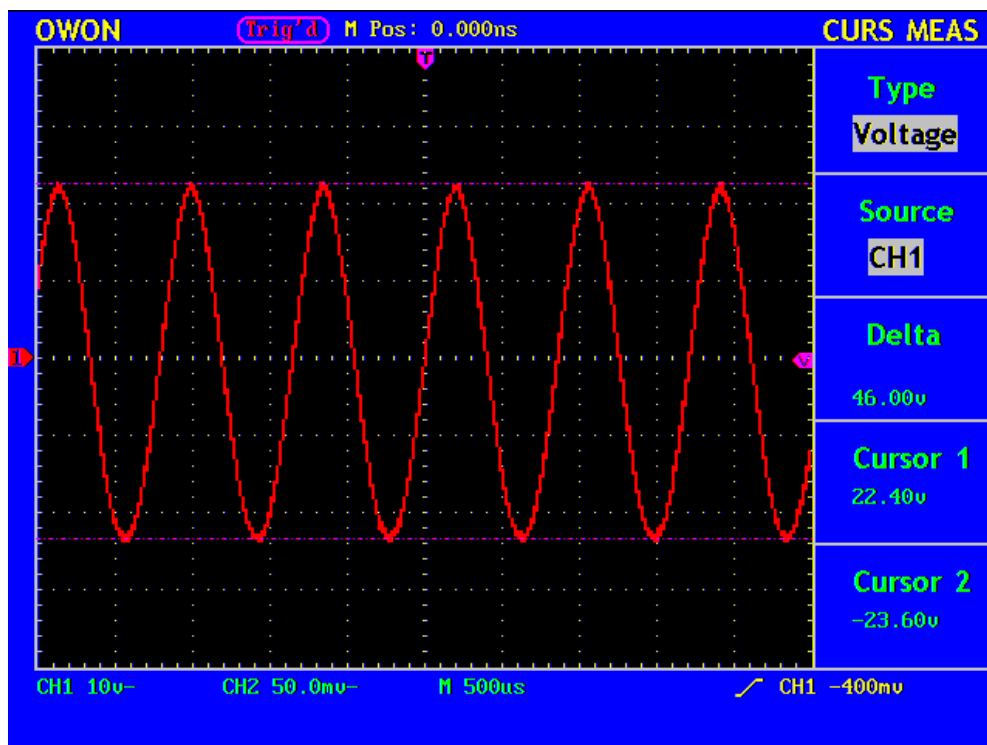

Fig.60 Wave Form of Voltage Cursor Measurement
4. Adjust the positions of **CURSOR1** and **CURSOR2** according to the measured wave form, with the absolute value of the voltage amplitude difference between Cursor 1 and Cursor 2 displayed in the increment window. The current position of Cursor1 is displayed in the Cursor1 window and that of Cursor2 is displayed in the Cursor2 window (see Fig.60).